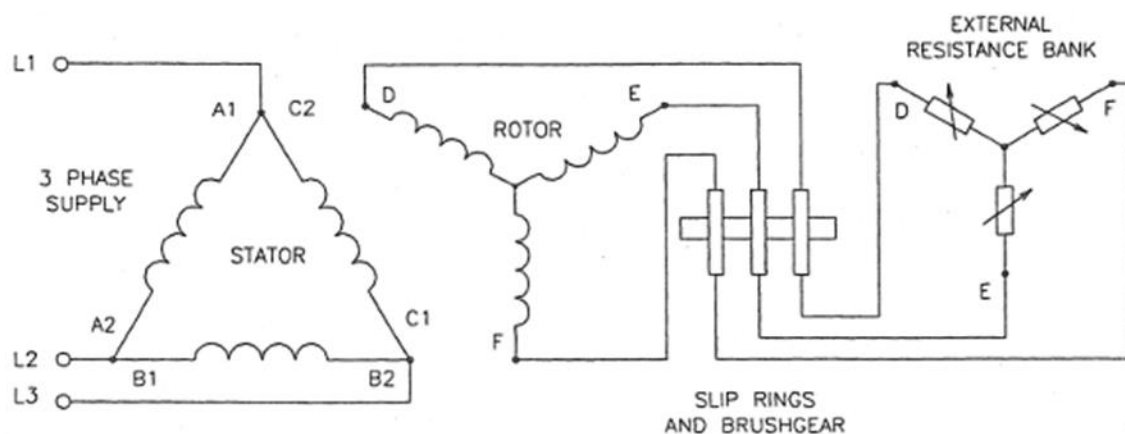

Figure 5 – Stator winding, rotor winding and external rotor resistance bank.
35. A wound rotor motor (also known as a slip-ring motor) has the same type of stator winding as the three phase squirrel cage induction motor, but it has a star connected rotor winding which is wound with INSULATED copper wire and connected to three slip-rings on the rotor. Unlike the squirrel cage rotor, the rotor winding is insulated from the laminated steel rotor core and the resistance of the rotor circuit can be varied by connecting external star connected resistance in series with the rotor winding via the slip rings. Figure 5 shows the relationship between the stator winding, the rotor winding and the external rotor resistances.